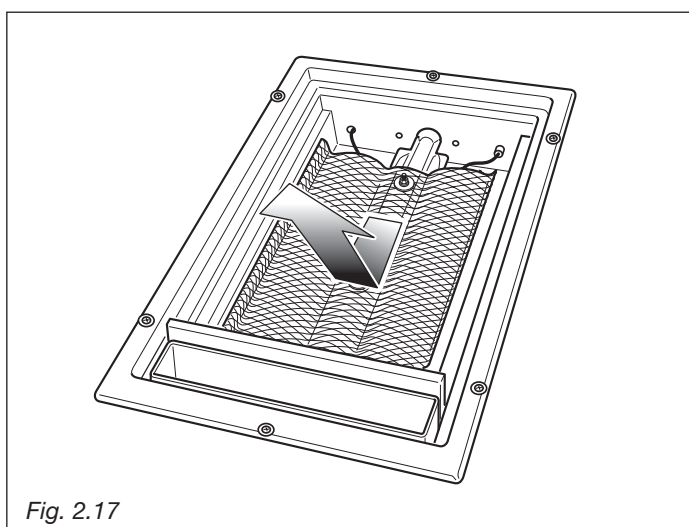

Fig. 2.17
- Remove the burner as shown in figure 2.17.